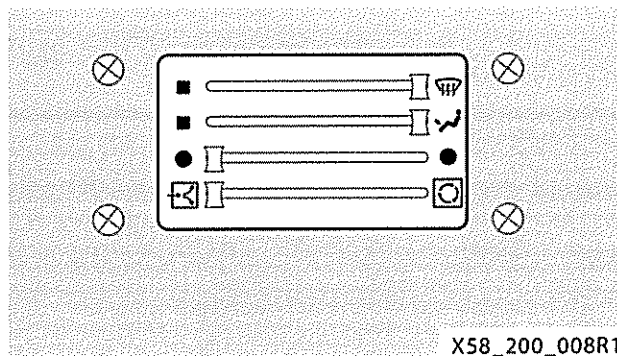

Fig 8 Maximum ventilation
- 20 Refer to Fig 8. The maximum ventilation setting is used to ventilate the cab rapidly, i.e. in hot weather.